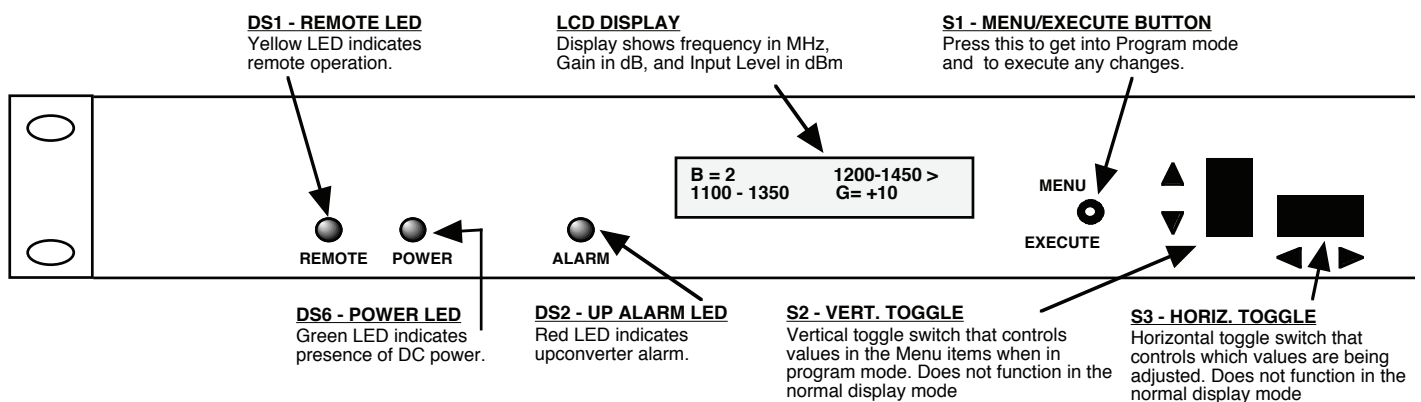

FIGURE 2.2 2083-1413 Front Panel Controls and Indicators
Figure 2.2 shows the front panel controls and indicators.
7. Be sure DS6 (green, DC Power) is on and DS2 (red, Alarm) is off (Figure 2.2).
Alarm indications appear on the LEDs (see Figure 2.2).